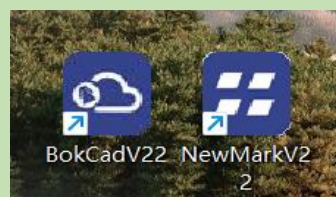

Figure 1-8
6. After the software installation is completed, shortcut icons for pattern making and material nesting will be automatically generated on the desktop. If not, you can find the pattern making icon in the software directory and then send it to the desktop as a shortcut (as shown in Figure 1-8).